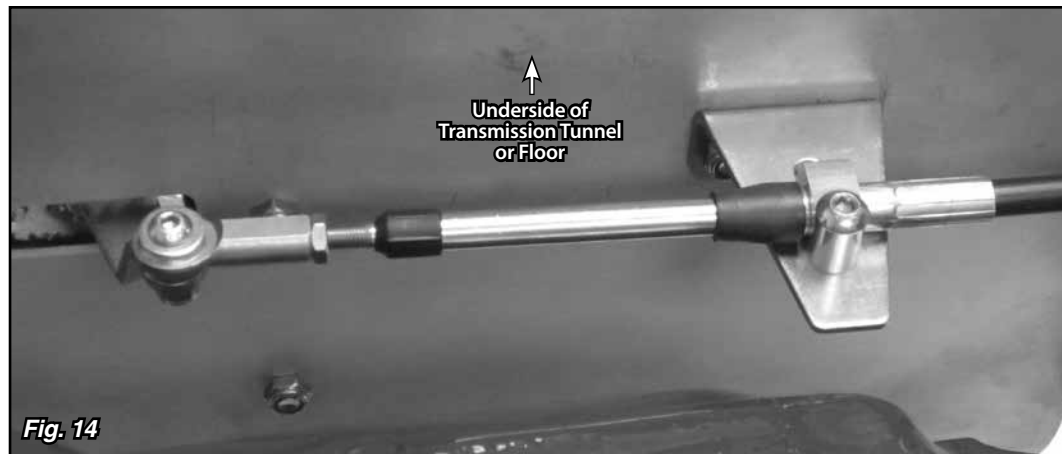

Fig. 14
Step 19: Mount the upper cable mounting bracket to the floor using the 5/16"-24 x 1/2" button head bolts and nylock jam nuts. **Fig. 14**